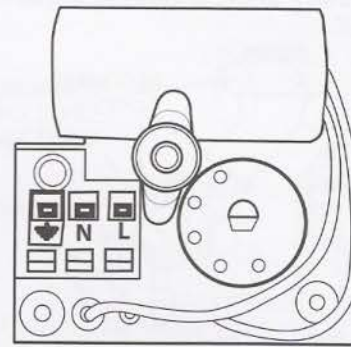

Figure 40
- Pull off the motor, remove the cover and disconnect the electrical leads from cable box Figure 40.